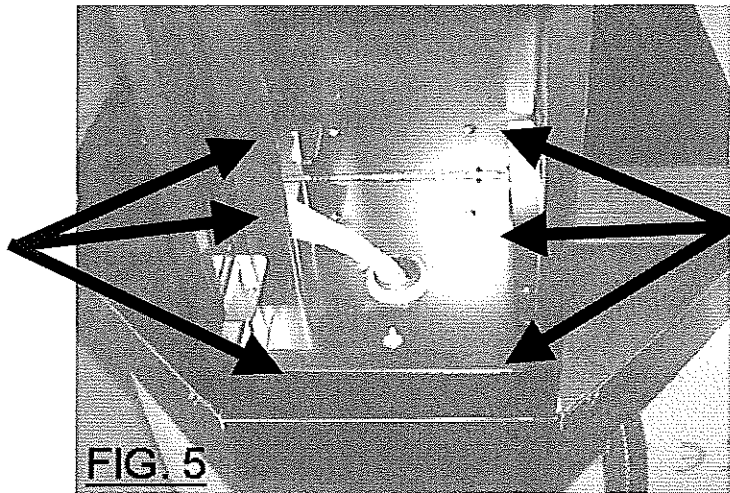

FIG. 5
7. Secure the Coin Tower to the Floor using the 6x M8 Hex head bolts and M8 washers (provided) at location shown in fig 5.